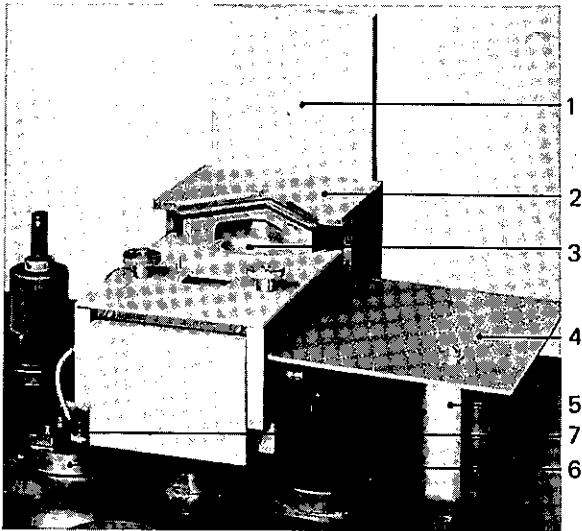

Fig. 13 Source complete with 4-way crucible
sary sheet (Fig. 13, item 4) is supplied with the source. After installation, cut the sheet to exact size to avoid arc-overs during evaporation.
- m. If there is sufficient space, bend the deflection (Fig. 13, item 1) about 90° backwards to crucible level. This will prolong the time intervals between the cleanings, particularly when larger amounts of material are evaporated (e.g. with pot crucible).
The high current lead-in (Fig. 13, item 6) acts as a current supply for the upper section of the anode (X-sweep). The lead-in must therefore be electrically insulated from the coating unit baseplate with 2 insulating plates, item 118 and 119 of the spare parts list BB 800 041 E / 6 and an insulating tube. If the underside of the coating unit baseplate is coated with an insulating protective film (anodised or brushed on), an earth line must be connected from the gun lead-in to the fixing angle 3 of the high current transformer. The connection from the lead-in to the anode is made with the installation material supplied, in accordance with the arrangement of the gun and high current lead-in. The coil current lead-in is mounted in the high current lead-in Fig. 13.